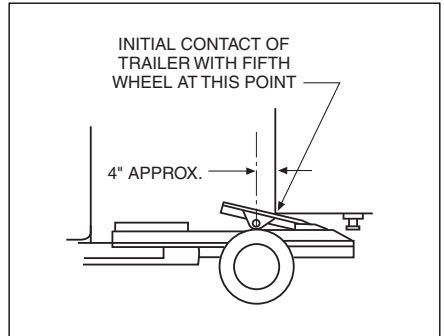

Figure 2
4. Make sure the fifth wheel ramps are in the down position (see *Figure 2*).
5. Check to see that the trailer is at the proper height for coupling. The front of the bolster plate should contact the fifth wheel approximately 4 inches to the rear of the fifth wheel’s articulation point. If not, raise or lower the fifth wheel to obtain this position (see *Figure 2*).
5. Check to see that the trailer is at the proper height for coupling. The front of the bolster plate should contact the fifth wheel approximately 4 inches to the rear of the fifth wheel's articulation point. If not, raise or lower the trailer landing gear to obtain this position (see *Figure 2*).